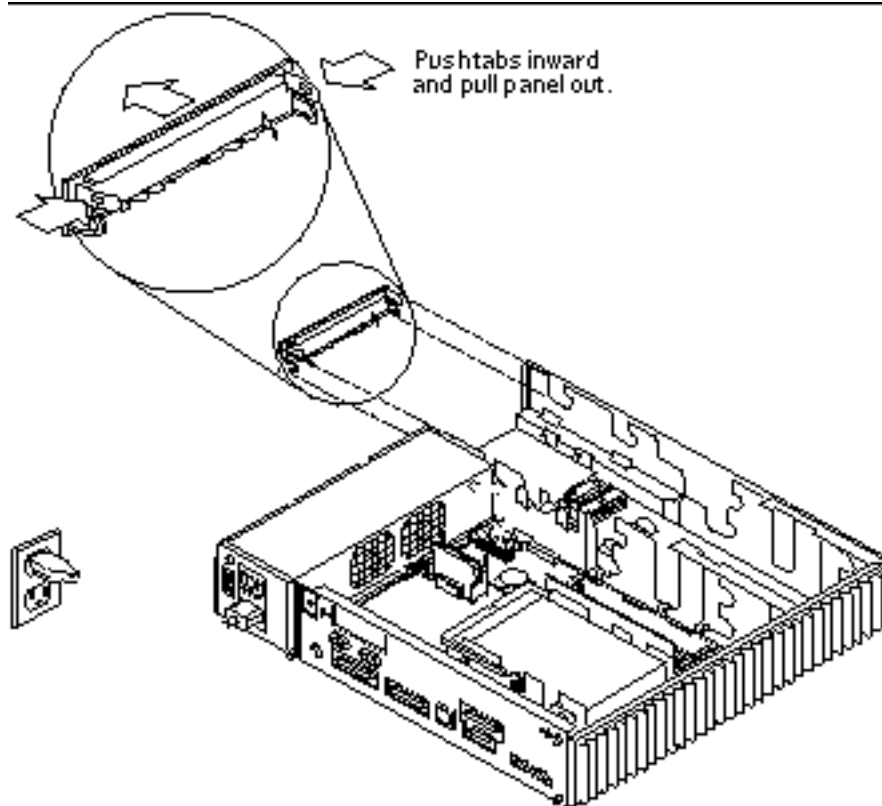

Figure 9-8 Removing the CD-ROM Filler Panel
- 3. If the CD-ROM drive is not installed, remove the CD-ROM filler panel as shown in Figure 9-8. If the CD-ROM drive is installed, remove it.**
4. Remove the diskette drive filler panel (if present) in the same way as you remove the CD-ROM filler panel, as shown in Figure 9-8. If the diskette drive is installed, push the diskette drive toward the center of the chassis to disengage it.
See Figure 9-8. If you need to reinstall the CD-ROM drive, see “Replacing the CD-ROM Drive” on page 66.